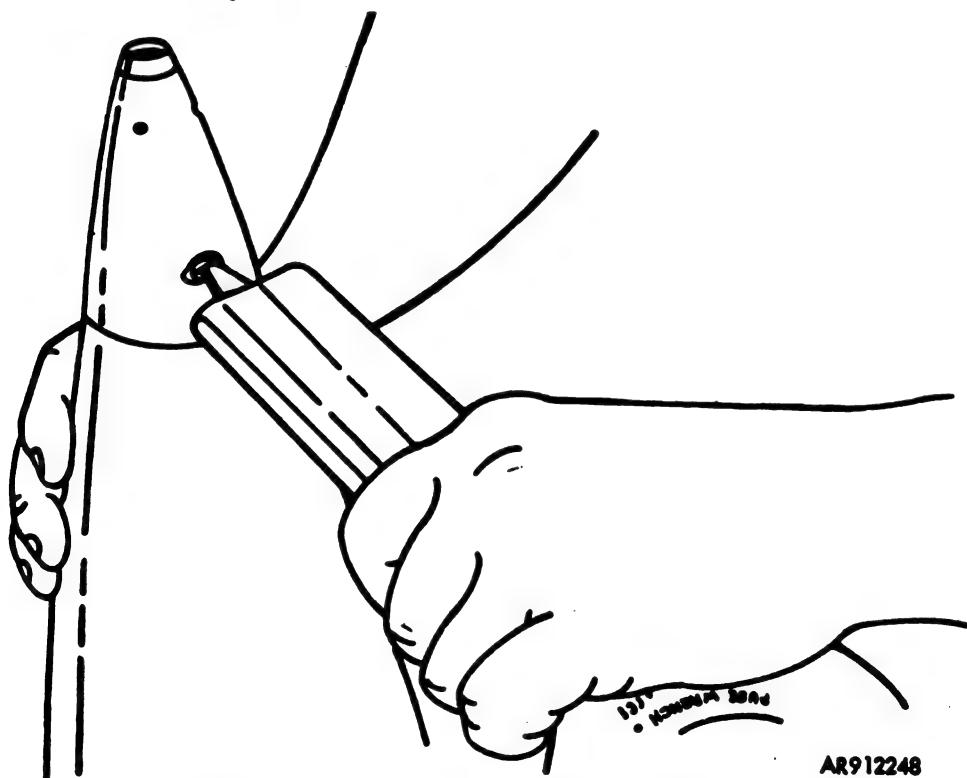

Figure 211.1. M18 Fuze wrench on M557 and M739 fuzes.
a. Procedures No. 1, M557 and M739 (fig. 211.1).